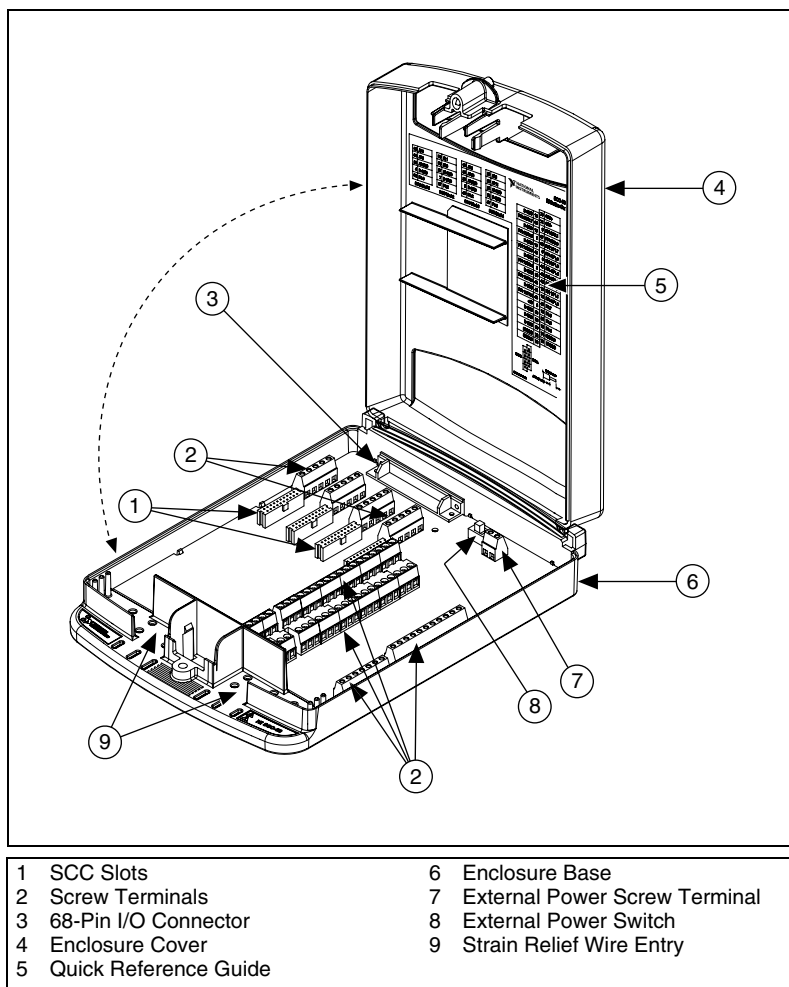

Figure 1. SCC-68 Parts Locator Diagram
1. Attach the quick reference guide, shown in Figures 21 and 22, to the top of the SCC-68 enclosure as shown in Figure 1. The quick reference guide for Connector 0 (included in the SCC-68 kit) shows the pin assignments of the SCC-68 and other useful information.
2. Refer to Figure 22 in the *Quick Reference Guides* section for the quick reference guide for the SCC-68 connected to Connector 1 of the DAQ device. The guide shows the pin assignments of the SCC-68 and other useful information. Attach a copy of this guide to the top of the SCC-68 enclosure as shown in Figure 1.
2. Refer to Figure 23 in the *Quick Reference Guides* section for the quick reference guide for the SCC-68 connected to the E Series DAQ device. The guide shows the pin assignments of the SCC-68 and other useful information. Attach a copy of this guide to the top of the SCC-68 enclosure as shown in Figure 1.
2. Refer to Figure 23 in the Quick Reference Guides section for the quick reference guide for the SCC-68 connected to the E Series DAQ device. The guide shows the pin assignments of the SCC-68 and other useful information. Attach a copy of this pinout to the top of the SCC-68 enclosure as shown in Figure 1.
To connect signals to the SCC-68, complete the following steps while referring to Figure 1.